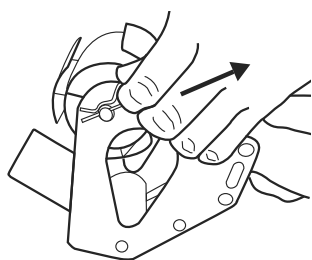

Figure 1
1. Remove clip. (See Figure 1)